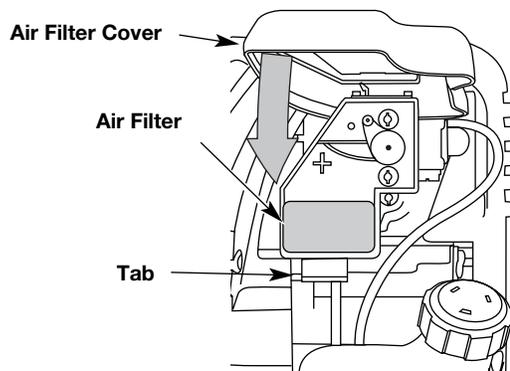

Fig. 32
8. Swing the cover down until the tab on the air filter backplate snaps into place in the slot on the air filter cover (Fig. 32).